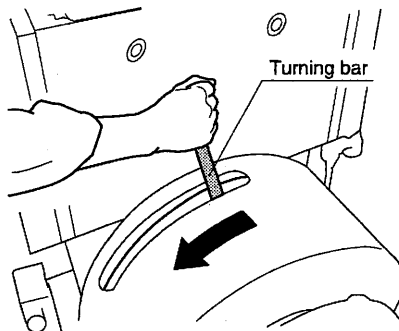

Fig. 18
- (2) With turning the flywheel using the turning bar (Fig. 18), supply oil to the main bearing, crank pin, and lower portion of cylinder wall by hand.